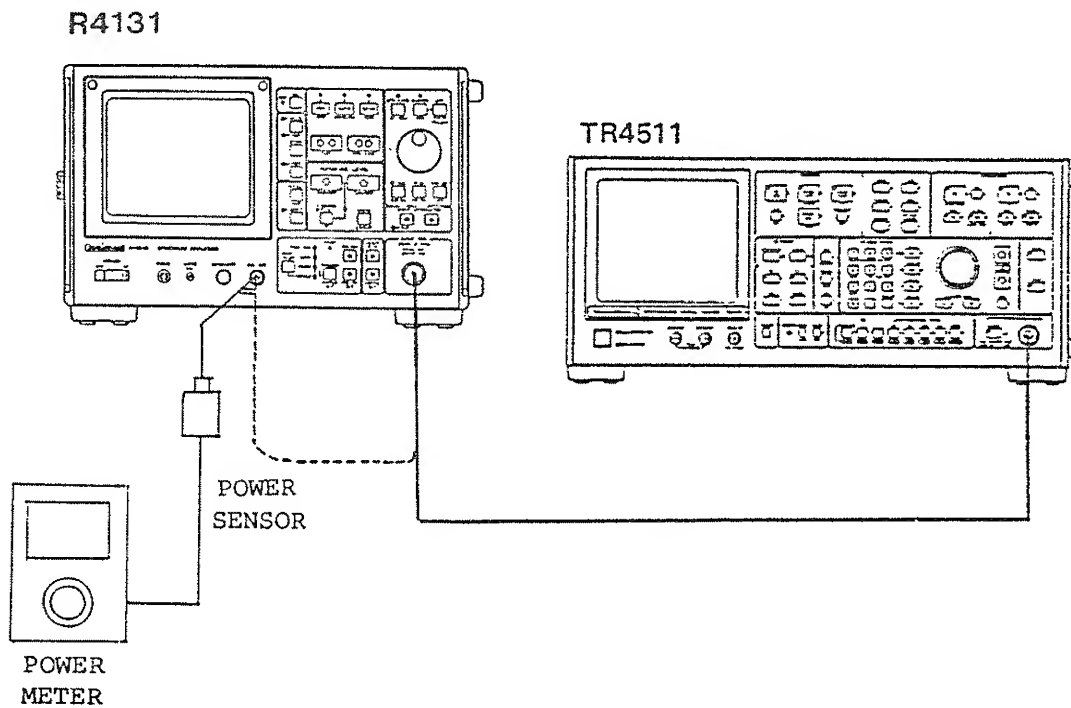

Figure 11-25 Calibrated Output Accuracy Test Setup
- ① Press the R4131 ZERO CAL switch.
- ② Set the synthesized signal source to 200 MHz, -30 dBm.
- ③ Connect the synthesized signal source to the spectrum analyzer INPUT connector. Set the span to 100 kHz while turning the TUNING dial to position the 200 MHz signal in the center of the display screen.
- ④ Next, connect the CAL signal to INPUT connector. (See Figure 11-25) Check that the center frequency is 200 MHz ± 30 kHz, or less.